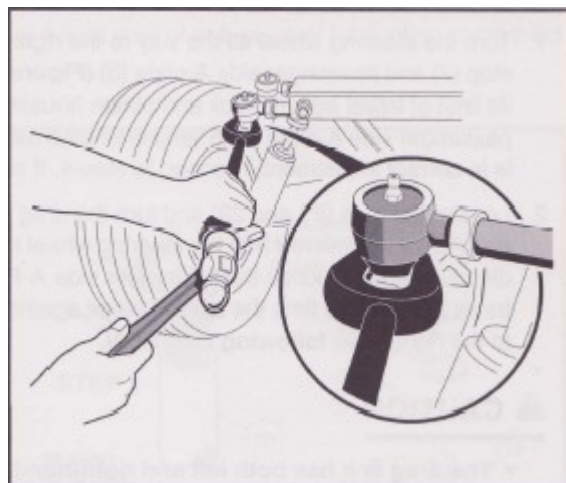
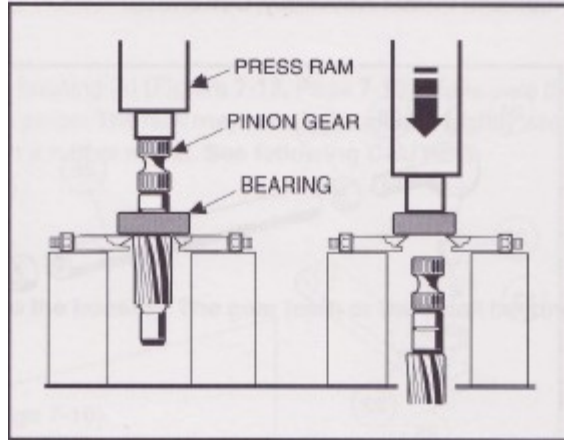
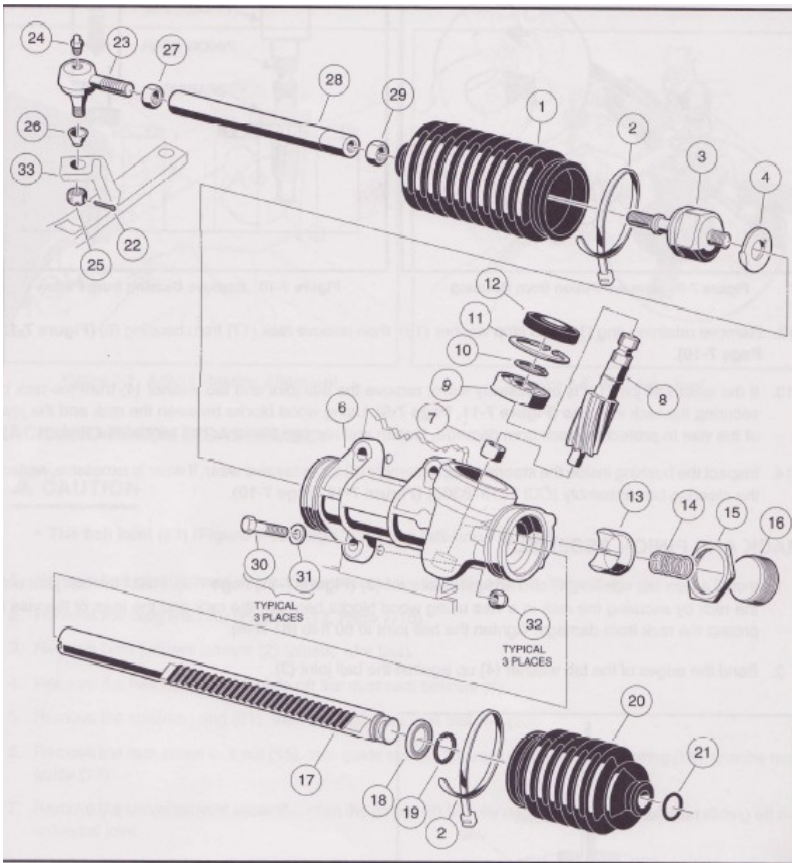

Figure 7-8 Ball Joint Tool
Figure 7-10 Remove Bearing from Pinion
Figure 7-12 Steering Gear
2. Loosen the nuts (27 and 29) and turn the drag link (28) (Figure 7-12) to adjust the drag link rod. Adjust the link rod with the steering wheel turned all the way to the right, so the passenger side spindle stop lightly touches the passenger side A-plate. The internal stop on the rack must reach its limit of travel at the same time the spindle stops against the passenger side A-plate (with vehicle wheels turned to the right). See following CAUTION.
3. When all adjustments have been completed, tighten the nuts (27 and 29) on the drag link assembly with an open end wrench. Tighten nuts to 21 ft-lb (28.4 Nm) (Figure 7-12).
When tightening the nuts (27 and 29), make sure the drag link (28) does not turn (Figure 7-12).
4. Straighten wheels and then turn steering wheel from lock to lock. Wheels should turn smoothly and easily. If steering wheel does not turn smoothly and easily, inspect steering assemblies; e.g. ball joints (23) (Figure 7-12) and (6 and 13) (Figure 7-20), spindle bushings (3 and 4) (Figure 7-21), wave washers (20) (Figure 7-21), and rack assembly (17) (Figure 7-12). Also inspect front suspension assemblies; e.g., A-plates (1) (Figure 7-20) urethane bushings (2) (Figure 7-20) and leaf springs (6) (Figure 7-21). Replace components as necessary.
2. Remove the cotter pin (22) and ball joint retaining nut (25) (Figure 7-12).
3. Using a ball joint removal tool, remove the ball joint (23) (Figure 7-12) from the spindle assembly. See Figure 7-8.
4. Remove the bolts (30), washers (31), and lock nuts (32) from the steering rack assembly mounting bracket (Figure 7-12).
The ball joint (23) (Figure 7-12) has left-hand threads).
1. Remove ball joint (23) and inspect it for excessive wear (Figure 7-8).
2. Remove the drag link (28) (Figure 7-12).
3. Remove both bellows clamps (2) (plastic wire ties).
4. Remove the hex nut (29) and slide off the dust seal bellows (20).
5. Remove the retaining ring (21), and then slide off dust seal bellows (20).
6. Remove the rack screw lock nut (15), rack guide screw (16), rack guide pressure spring (14), and the rack universal joint.
7. Remove the universal joint assembly from the pinion (8) by fully removing the bolt and then sliding off the universal joint.
8. If necessary, remove the dust seal (12). See following Note.
If the dust seal (12) is removed, replace with a new one (Figure 7-12).
9. Using snap ring pliers remove the internal snap ring (11) (Figure 7-12).
11. If the ball bearing (9) has been damaged, remove the external snap ring (10) (Figure 7-12) and press the bearing off (Figure 7-10).
12. Remove the retaining ring (19) and stop washer (18), then remove rack (17) from housing (6) (Figure 7-12).
14. Inspect the bushing inside the steering box assembly (6) for excessive wear. If wear is excessive, replace the steering assembly (Figure 7-12).
2. Bend the edges of the tab washer (4) up against the ball joint (3).
3. Apply a liberal amount of EP grease to the teeth of the rack (17), then slide the rack through the housing (6). Install the stop washer (18) and retaining ring (19) to the end of the rack (Figure 7-12).
4. If the bearing (9) was removed, press on a new bearing, exerting all pressure on the inner race (grease the bearing before installing it). Then install the external snap ring (10) (Figure 7-12).
5. If the needle bearing (7) is damaged, the steering box assembly must be replaced (Figure 7-12).
6. Install pinion (8) and bearing (9) assembly into the housing (6) (Figure 7-12). Make sure the rack gear teeth will mesh with the gear teeth on the pinion. The rack may need to be rotated slightly while lightly tapping on the pinion-bearing assembly with a rubber mallet. See following CAUTION.
7. Install the internal snap ring (11) (Figure 7-12).
9. Apply a small amount of grease to the rack guide (13) where it comes into contact with the rack (17) (Figure 7-12).
10. Place a few drops of Loctite® 222 on the threads of the screw (16) (Figure 7-12).
11. Install the rack guide (13), pressure spring (14), and screw (16). The screw should be threaded in until a rotational torque of 10 in-lb (1.13 Nm) is achieved (Figure 7-12).